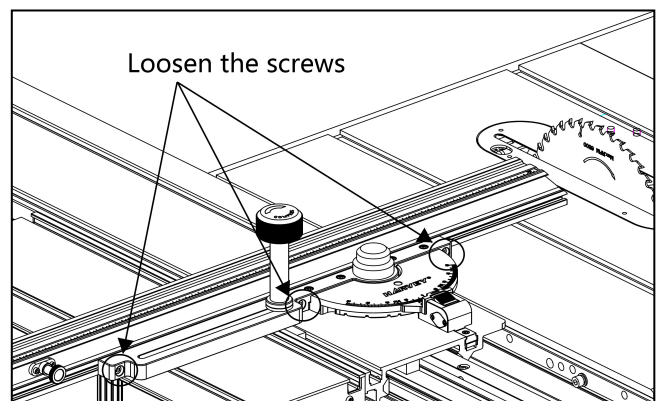

Fig.16
12. Use a 5mm hexagon wrench to slightly loosen the crosscut fence from the miter gauge as shown in **Fig. 16**. With the blade guard installed, raise the saw blade to the highest elevation. Pivot the crosscut fence until it is parallel to the front edge of the saw table. Slide the crosscut fence until the right side of the crosscut fence is about 2-1/8 inches (55.5mm) from the left side of the blade. Re-tighten the screws.